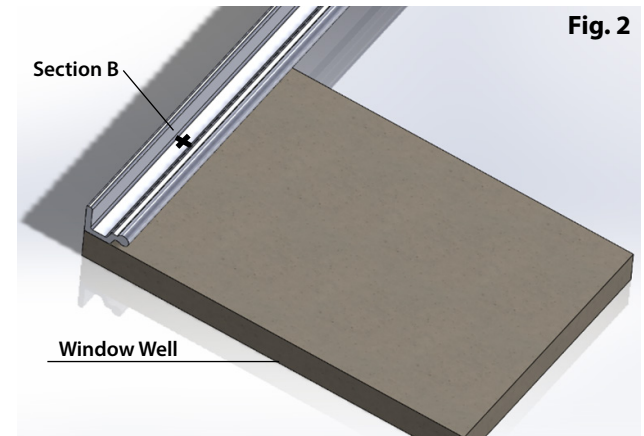

Fig. 2
2. With a permanent marker, mark the section of A where the aluminum is centered on the window well. (Shown in Fig. 2)
2. With a permanent marker, mark the section of B where the aluminum is centered on the window well. (Shown in Fig. 2)